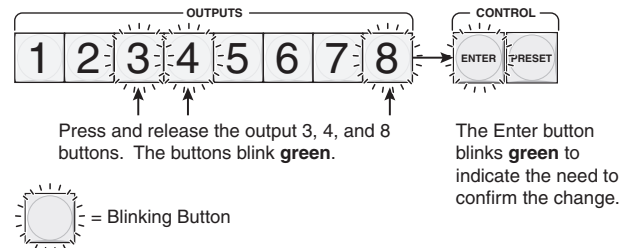

Figure 3-6 — Select outputs
2. Press and release the Output 3, Output 4, and Output 8 buttons (figure 3-6).